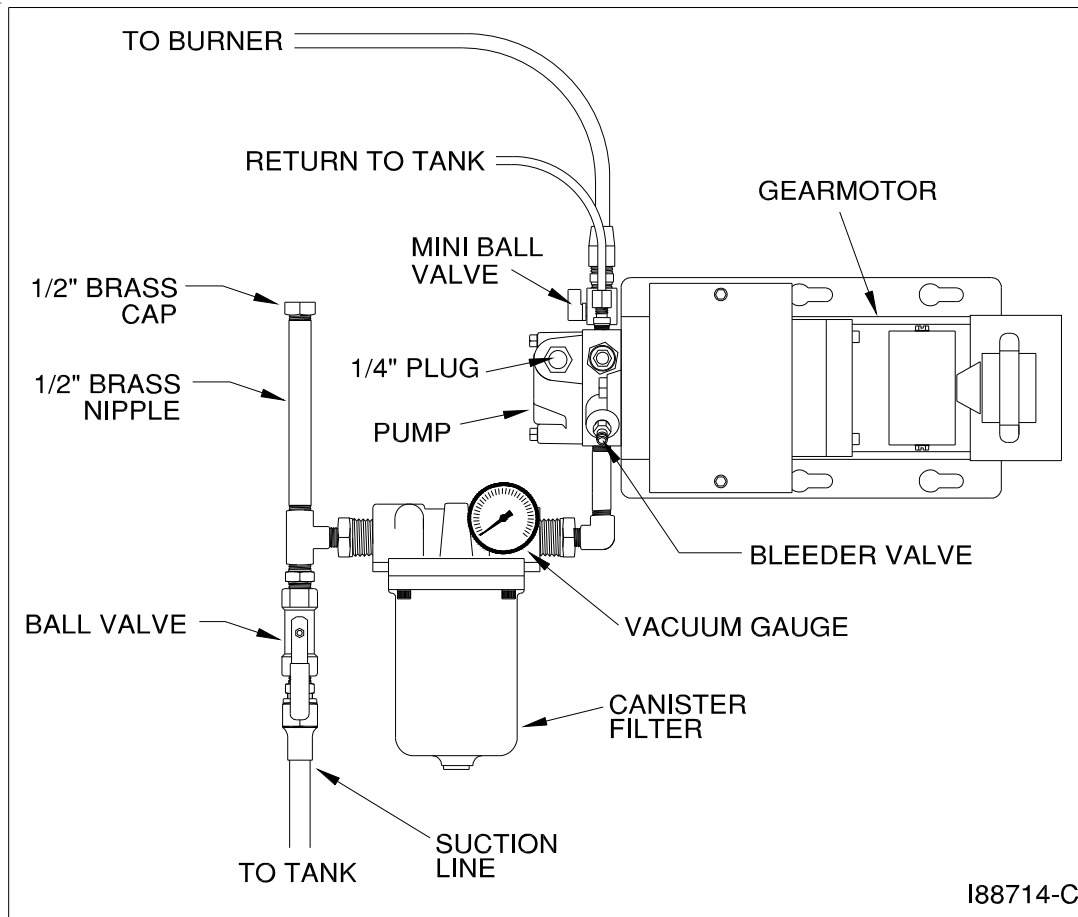

Figure 5A - Priming the Metering Pump
1. Refer to Figure 5A.
3. Refer to Figure 5A. Close the ball valve at the inlet to the canister filter. Observe the vacuum gauge.